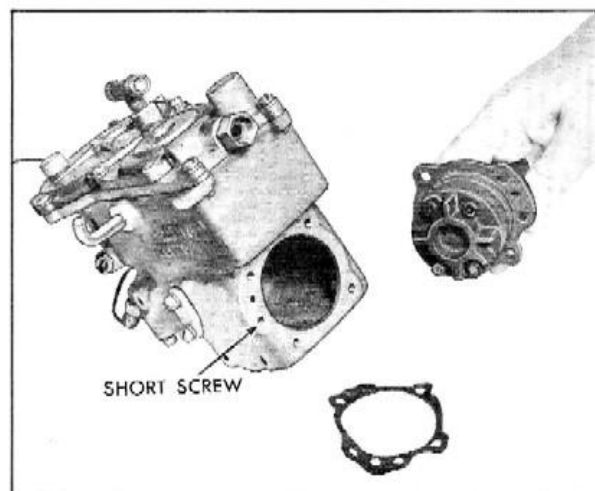

Fig. 18 Removing Fuel Meter Fuel Pump
3. Remove high pressure fuel pump and gasket, Fig. 18, by removing five attaching screws. Do not further disassemble fuel pump!